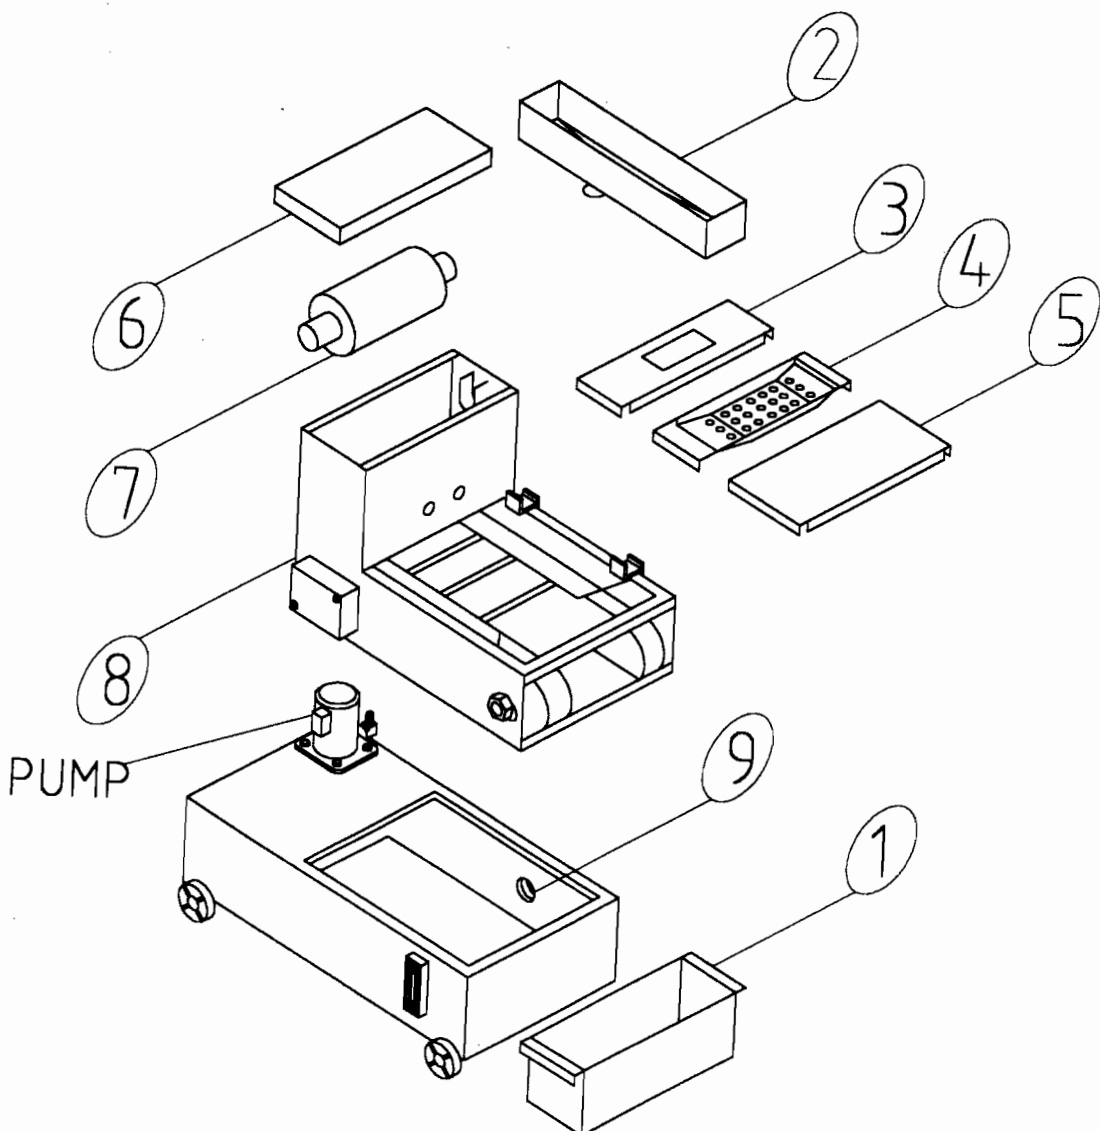

Fig. 4
1. To replace coolant, please take apart the paper filter system according to number 1 through 8 as shown on figure 4.
2. Remove draining plug (item 9) to drain out residues and coolant, then please wash the tank with cleaning agent to prevent germination and odor.